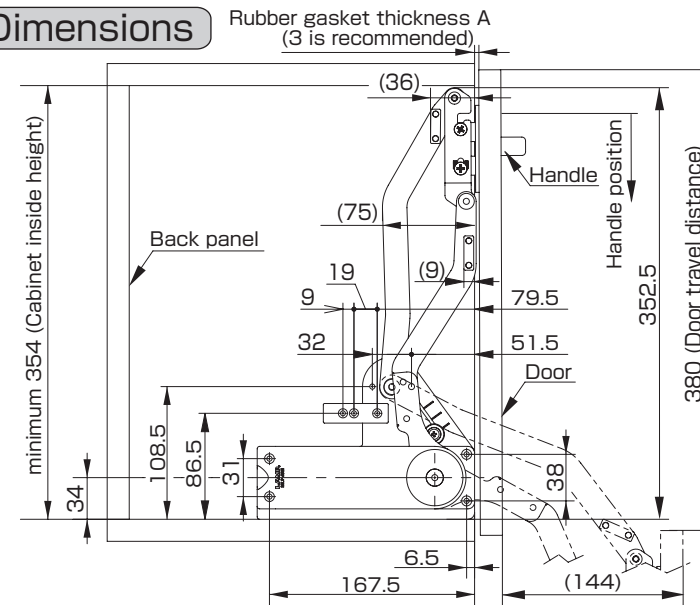
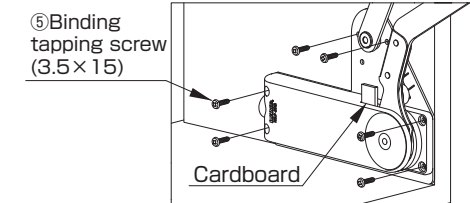

Fig. 3-1. Dimensions (SLD main body)
Fig. 4
- (1) Line up SLD body ① and ② with the bottom and front of the cabinet and secure with screws ⑤ (Fig. 3-1 and Fig. 4).
- (1) Hang the door through the long hole using a screw ④ in the top bracket ③ and tighten the screw.
- (2) Secure assembly with a screw ④ through the bottom hole.
Remark: when installing the handle on the door, we recommend that it is installed in a position lower than bracket ③ as shown on Fig. 3-1.